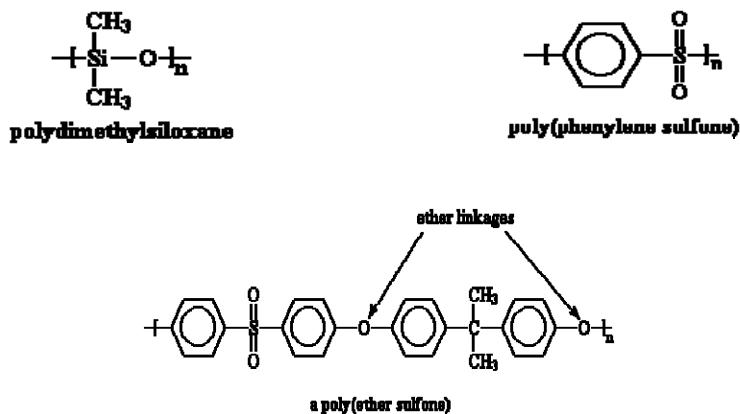

Figure 4: Structural formula of polydimethylsiloxane, poly(phenylene sulfone) and poly(ether sulfone)
4. [a] Polydimethylsiloxane and poly(phenylene sulfone) have a very distinctive difference in terms of their glass transition temperature (T_g) value. Discuss why the differences exist between them with respect to their molecular structure. Consequently, poly(phenylene sulfone) (PPS) is known to have a serious processing problem and polymer scientist has introduced ether linkages into the backbone of poly(phenylene sulfone) which is then known as poly(ether sulfone) with a chemical structure as shown in Figure 4. Introduction of ether linkages has reduced the T_g of PPS from 500°C to 190°C. Explain the function of ether linkages in reducing the T_g of poly(phenylene sulfone).